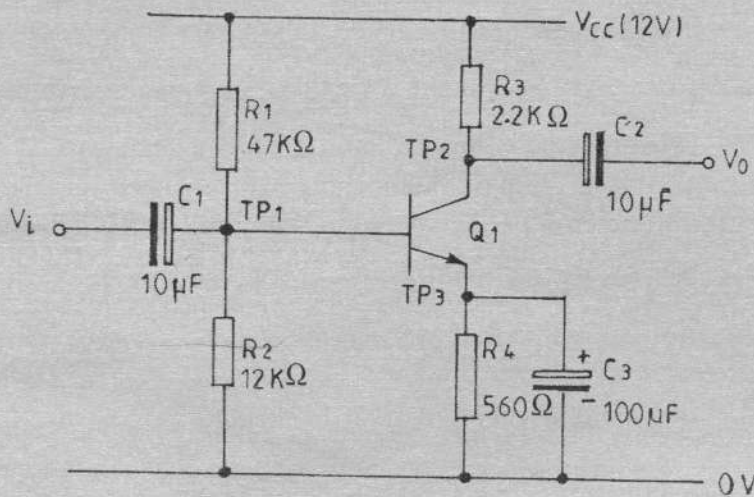

Fig. 2
- (I) factors that may cause premature failure of capacitors;
- (II) precautions to be observed when handling and testing electronic components. (4 marks)
- (b) Figure 2 shows a circuit diagram of an amplifier.
- (I) resistor  $R_1$  open circuit;
- (II) transistor base-emitter junction short circuit.